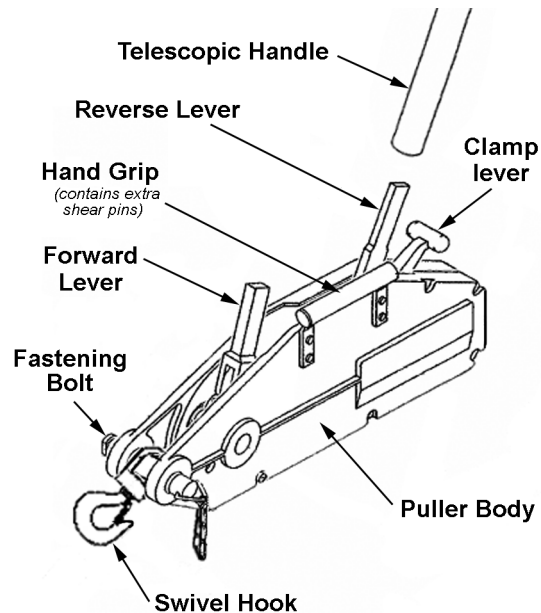

Figure 1
Before proceeding with assembly, lubricate the puller as follows: Apply oil to the puller mechanisms while continuously operating the *reverse lever* (see Figure 1). This will help spread oil to internal parts. Use special care to oil pawls and links well. A wear-resistant oil is recommended.
**IMPORTANT:** A shear pin (#25 in the parts list) is installed in the forward lever. If the load being handled is too excessive for the puller's capacity, the shear pin is designed to break. If this occurs, **decrease the load or use other equipment of higher pulling capacity**. The broken shear pin is easily replaced using one of the spare shear pins which are found within the hand grip of the 1-1/2 and 3-ton pullers (see Figure 1) and in the telescopic handle of the 3/4-ton puller.